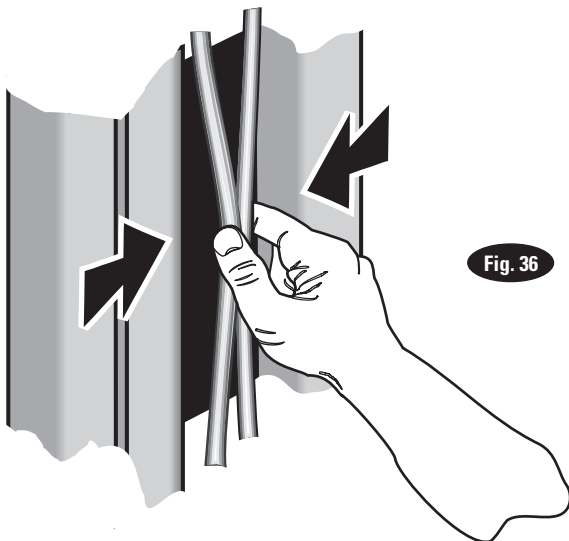

Fig. 36
25. Equalizer Cable Adjustment: Raise lift to check equalizer cable tension. Below carriage, grasp adjacent cables between thumb and forefinger, with about 15 lbs. effort you should just pull the cables together, Fig. 36. Adjust at upper tie-offs Fig. 18.